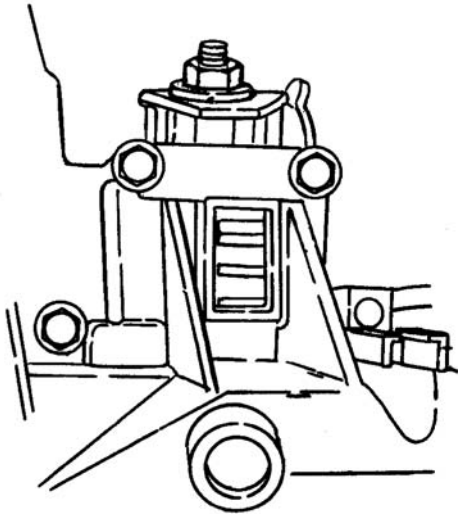

Figure 6-50. Brake Disc (Bottom View)
- a. To check for proper setting, place a feeler gauge between two of the discs. There should be from 0.015 to 0.025 inch clearance. See Figure 6-50.